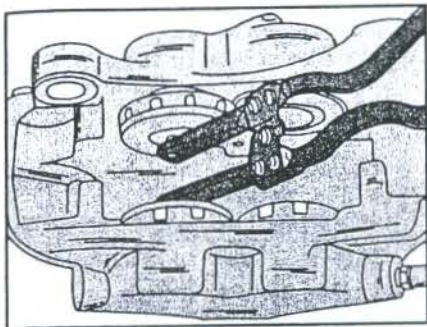

Fig. 7.12 – The rubber dust seals must be pressed in position with a pair of pliers, operating on the principle shown.
- Fit the rubber dust seal over the piston, but note that two pistons must be fitted. To spread the pressure evenly, a pair of pliers, as shown in Fig. 7.12 is most suitable for this operation.